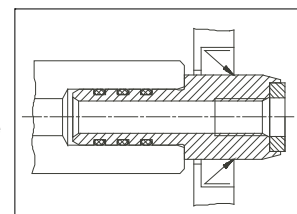

fig. 3: Spindle end with rotor
- Prior to installing the rotor in the spindle end (fig. 3) clean the sealing surface and moisten with some water soluble oil.
- Grease the O-rings of the rotor. Push the rotor with utmost care into the spindle end until end position (fig. 3). Don't damage the seal faces.